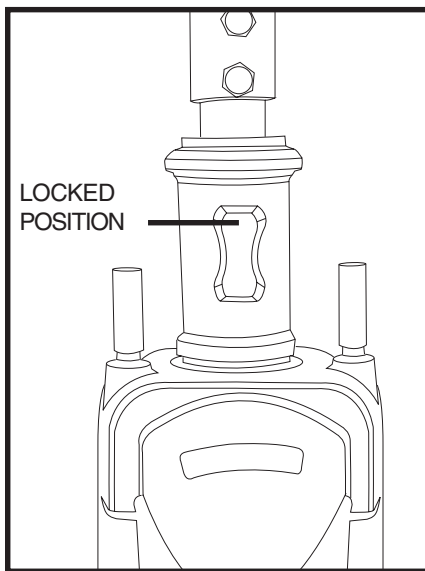

Figure 19. Tiller Lock knob (Locked)
1. Lock the tiller in place by pushing the tiller lock knob in and turning it clockwise 90°. See figure 19. The front wheel must face forward in order to lock the tiller.